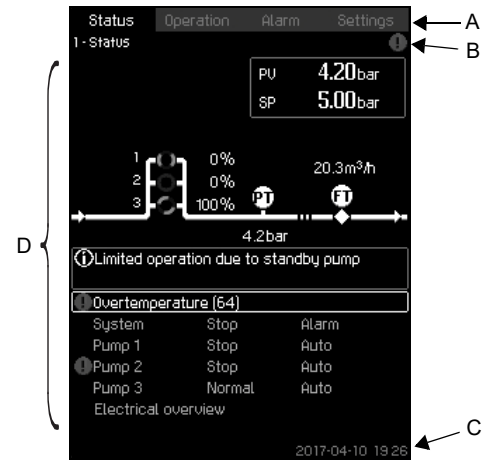

Fig. 10 Display design
The menu line (A) is illustrated in fig. 10.
The top line (B) is illustrated in fig. 10. It shows the following: